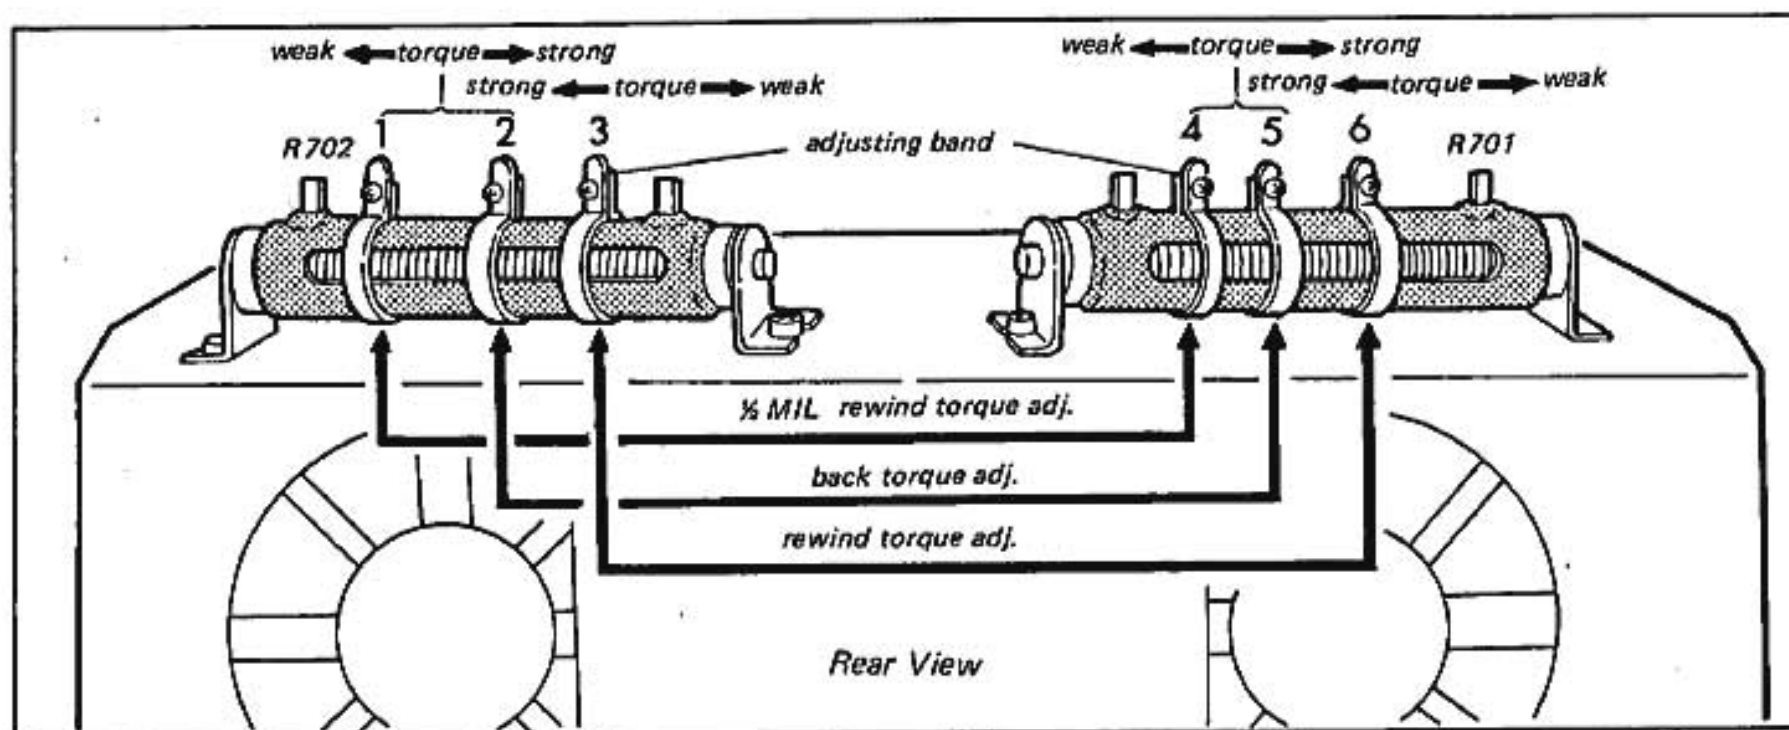

Fig. 6-2. Reel Motor Torque Adjustment
① Left Back Torque . . . Push the Forward Button "►". Pull the spring scale in the direction shown by the dotted line and arrow. A steady pull, at the constant speed (tape speed), should give a reading of 70 g. Adjusting Slider band 5 of the torque adjusting resistor R701 (See Fig. 6-2).
② Right Back Torque . . . Push the Reverse Button "◄". Pull the spring scale in the direction shown by the dotted line and arrow. A steady pull, at the constant speed (tape speed), should give a reading of 80 g.